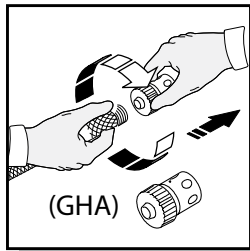

Fig. 26
- Wrap the power cord around the accessory holder using the extension tabs at the 3:00 & 9:00 position and the L-shaped power cord holder/tab located at the 6:00 position (Fig. 26).